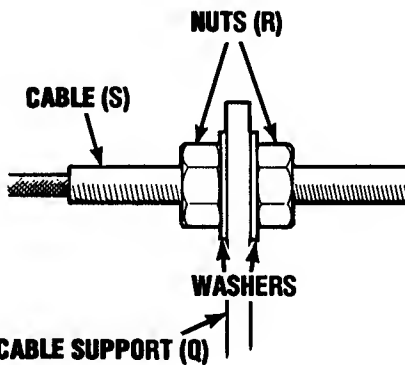

Fig. 10
9. With the mower blade drive lever (F, page 17, Fig. 23) in the disengaged (DOWN) position. Adjust nuts (R, Fig. 10) so all slack has been taken up in cable (S). Tighten nuts (R).